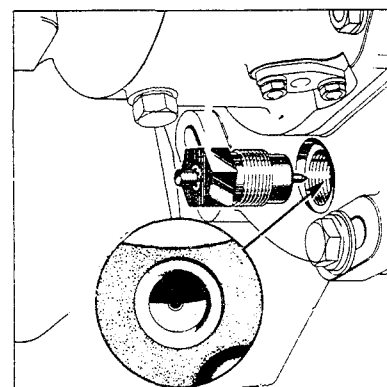

FIG. 10
2. Remove the inspection plug which is adjacent to the injection pump (Figure 10) and rotate engine crankshaft until the two semi-circular dimples which can be seen through the timing aperture are in line. (Note: Timing Tool No. C-9077 is available to insure positive location.)